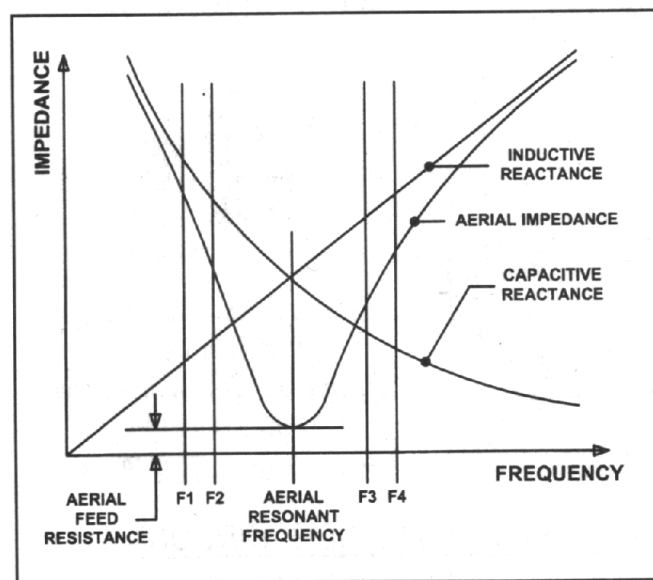

Fig 4 - Impedance, reactance, resonance chart.
Select a test frequency on your handheld (see Photo 1) and adjust the power output for around 1 W (or use the inbuilt attenuator to produce 0.4 - 2 W into the test circuit from your HF rig). Switch to "SET FSD", adjust for full scale, and then check "SWR". Check the apparent impedance (Z) on the R or Z scale. Now switch your radio to a slightly higher frequency, recalibrate the instrument and note changes to SWR and impedance. If the impedance fell on the second test the aerial is too short and needs extending. If the impedance rose then you are measuring above the aerial's resonant frequency and it needs to be shortened. Note that the frequency change should be kept relatively small (1 - 2%). It is very easy to completely miss the aerial resonance with a big frequency change (say from F2 to F3 in Figure 4) and fool yourself. This is particularly so on multi-element Yagis with small element diameters, as the bandwidth can be very narrow.